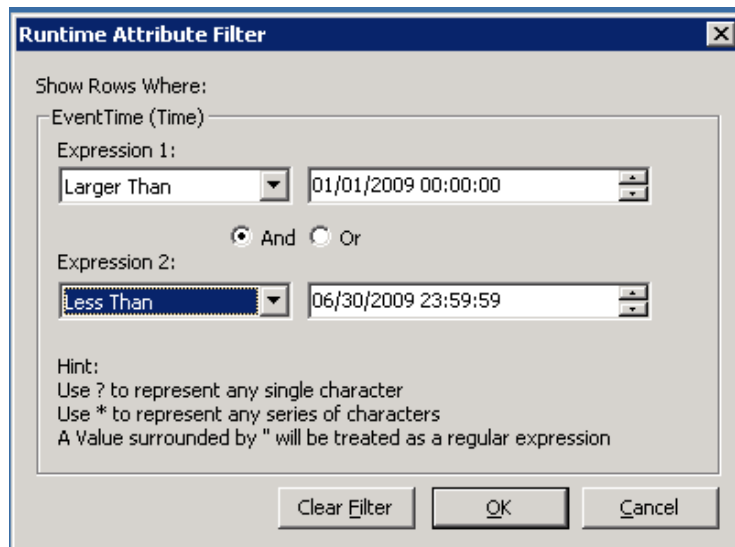

Figure 5. Runtime Attribute Filter Dialog Box
3. This will cause the Runtime Attribute Filter dialog box shown in Figure 5 to appear. The example shown in Figure 5 will fetch IM Events for the first half of 2009.